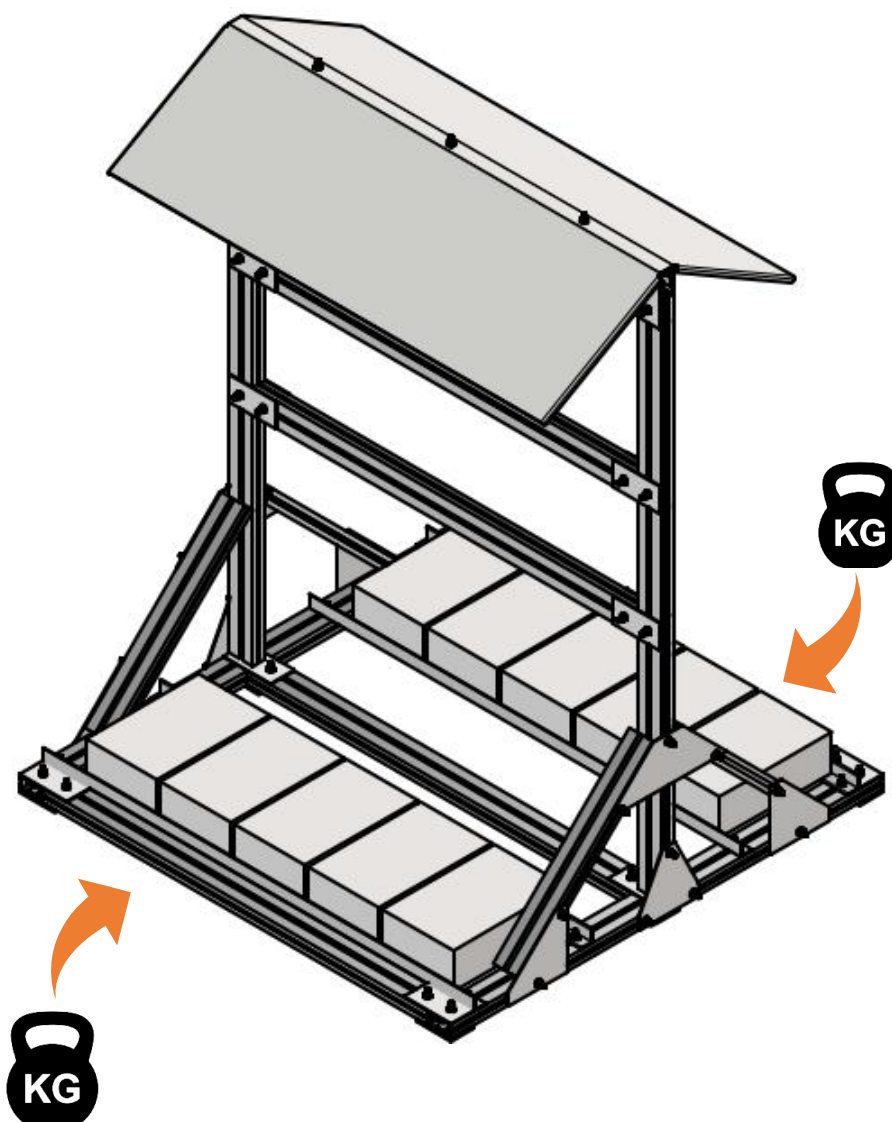

FIG. 12 Ballast arrangement
13. Place suitably selected ballast (road concrete blocks recommended) evenly on the support angles, with a mass of min. 100 kg per side of the structure (min. 200 kg in total), as shown in Fig. 12. **The values given are minimum values; the final ballast mass and its distribution must be consulted with a structural engineer**, who — considering the number and weight of the installed inverters, the type of roof, and the local wind and snow conditions — will determine the required ballasting of the structure.